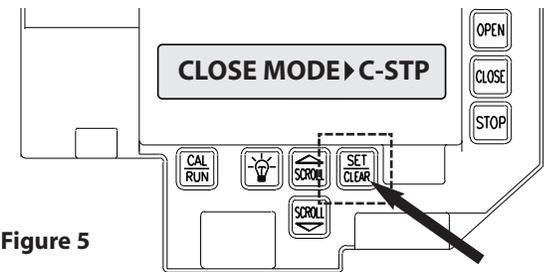

Figure 5
- 4) Press SET/CLEAR until display reads "CLOSE MODE > C-STP." **Fig. 5.**